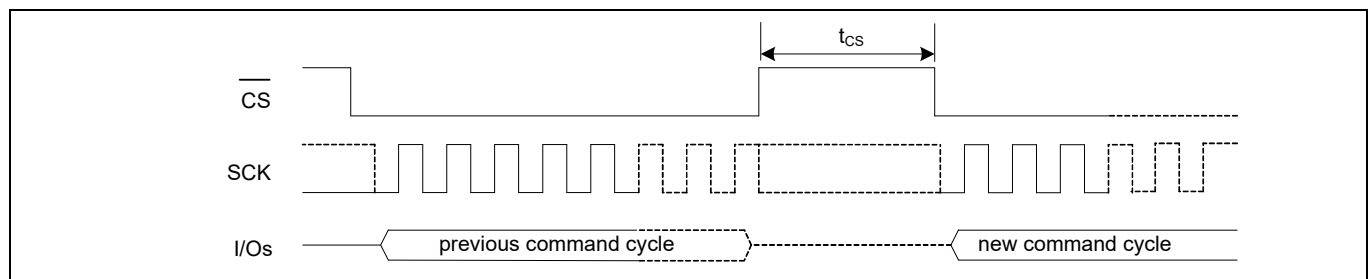

Figure 116 Chip deselect ($\overline{CS}$ HIGH) - t_{CS} timing
24. t_{CS} is the minimum chip deselect ($\overline{CS}$ HIGH) time before the new command cycle starts in a specific SPI mode (SPI, DPI or QPI). This parameter ensures that previous operation is successfully completed before the host starts a new command cycle. Refer to **Figure 116**.
24. t_{CS} is the minimum chip deselect ($\overline{\text{CS}}$ HIGH) time before the new command cycle starts in a specific SPI mode (SPI, DPI or QPI). This parameter ensures that previous operation is successfully completed before the host starts a new command cycle. Refer to Figure 116.
28. t_{CS} is the minimum chip deselect ($\overline{CS}$ HIGH) time before the new command cycle starts in a specific SPI mode (SPI or QPI). This parameter ensures that previous operation is successfully completed before the host starts a new command cycle. Refer to **Figure 116**.